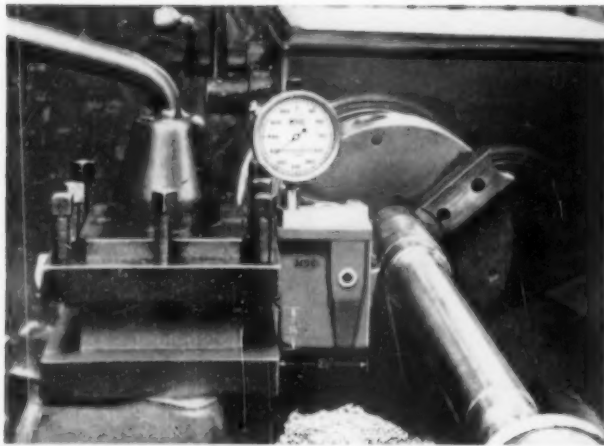

FIG. 4. Component Dynamometer, design by G. Schlesinger. Made by Machine Shop Equipment, Ltd., London.
If we standardize the cross sectional area of the machinability tests to 0.001 sq. in., we have many advantages: (1) We eliminate three digits, e.g., reading 242 per 0.001 sq. in. instead of 242,000 per sq. in.; (2) we can use a small testing lathe of 2 to 3 hp, which is available in every workshop; and (3) we read as index-cipher: $I = T/A$, the direct value in pounds measured with a small one-component instrument (Fig. 4).